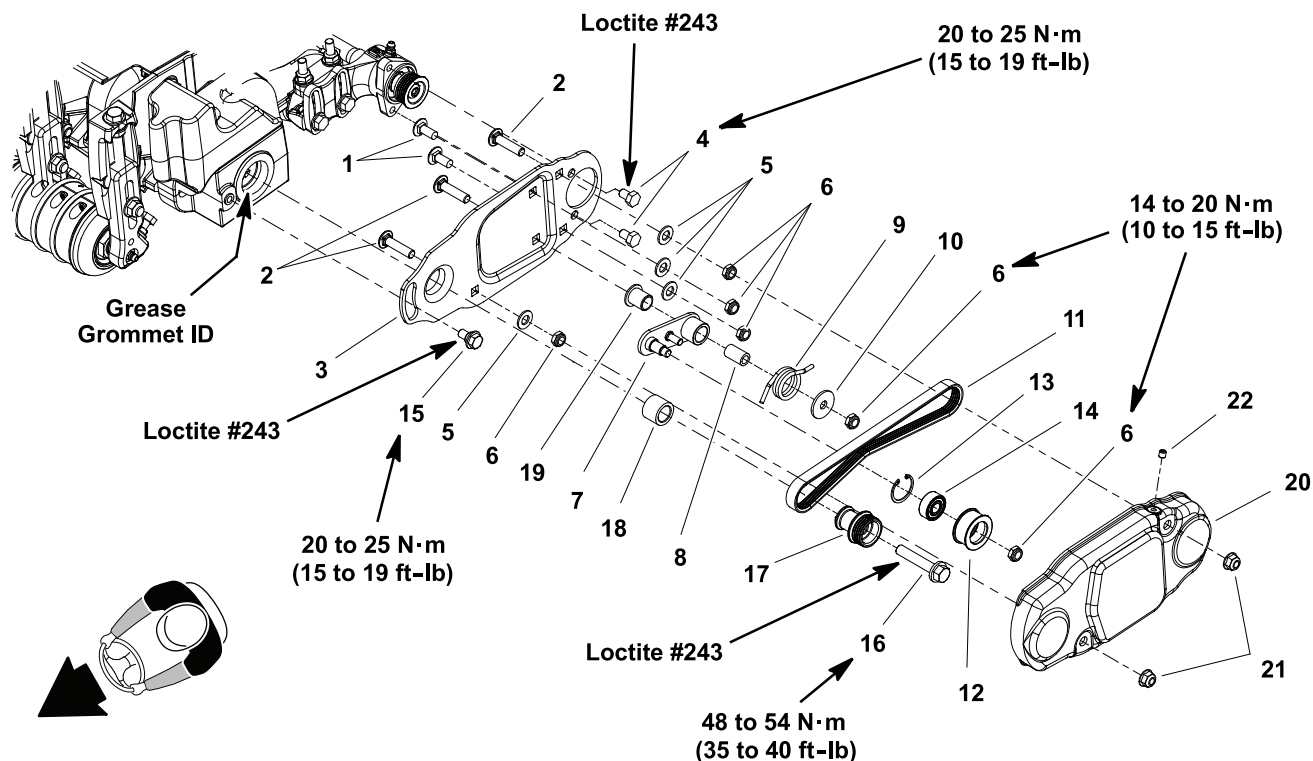

Figure 199
Note: Drive components for the rear roller brush are located on the opposite side of the cutting unit from the cutting reel motor. Figure 199 shows components used when the brush drive is on the left side of the cutting unit.
2. Remove cover (item 20) to access rear roller brush drive components.
3. Remove roller brush drive components as necessary using Figure 199 as a guide.
- C. Position housing to cutting unit side plate and secure to cutting unit with two (2) socket head screws.
2. Assemble roller brush components using Figure 199 as a guide.
- A. During assembly, apply Loctite #243 (or equivalent) to threads of fasteners and torque fasteners as shown in Figure 199.
- C. Brush plate should be installed so that idler pulley assembly is toward the bottom of the plate. Also, the shoulder bolt (item 15) should not clamp the brush plate to the drive housing during assembly.
- D. When installing drive pulley (item 17), make sure that tabs on pulley engage slot in drive shaft.
- E. Idler arm (item 7) should be free to rotate after assembly to brush plate. Make sure that idler spring is installed so that it can rotate the idler arm and pulley and apply tension to the drive belt.